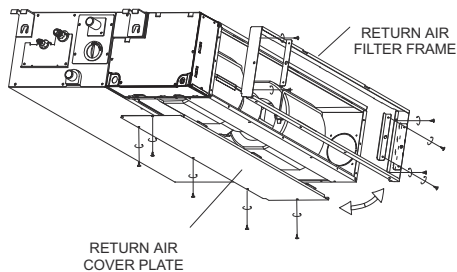

Fig. 15 —Removing Air Filter Frame and Cover Plate
2. Remove the screws that secure the return air cover plate to the bottom of the unit and set the cover plate aside. See Fig. 15 below.